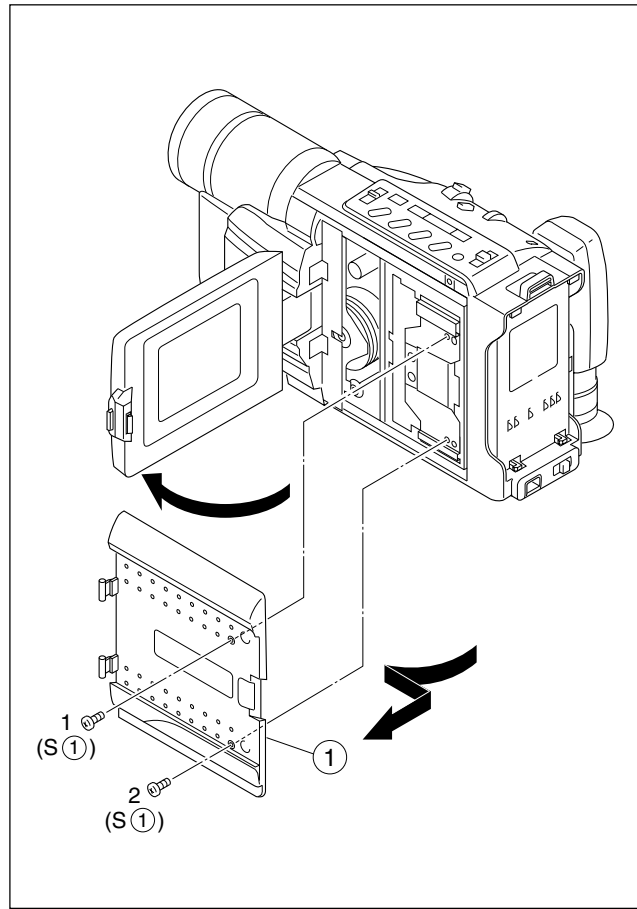

Fig. C1
2. Remove the cassette cover assembly, Upper case, Lower case assembly, Top operation assembly, Monitor assembly (See Fig. C1, C2, C3, C5 and C8, Pages 1-4 to 1-7).